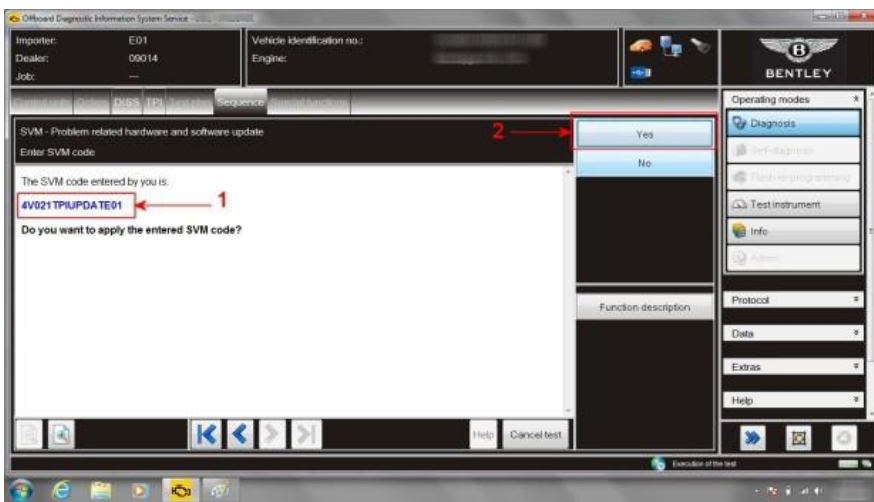

Figure 3
9. At SVM screen enter (1) the specific SVM code 4V021TPIUPDATE01 and then Yes (2) (see Figure 3)